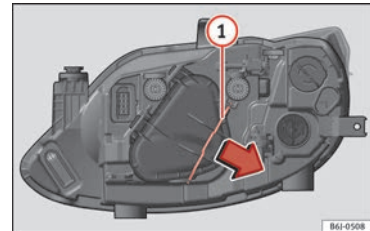

Fig. 85 Single headlight.
- Move the loop » Fig. 85 ① in the direction of the arrow and remove the cover.